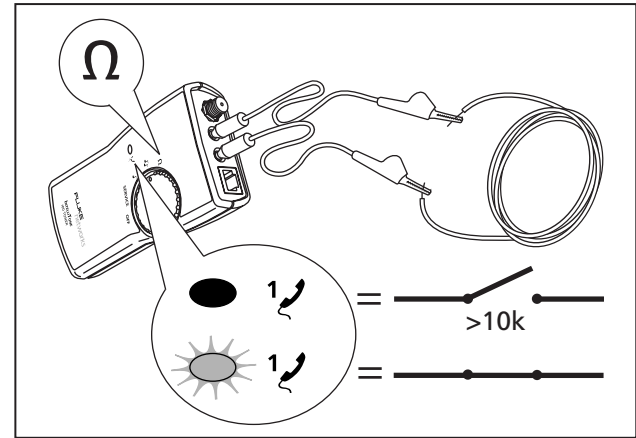

Figure 3. Continuity Test
3. Connect the toner to the circuit or component as shown in Figure 3.
5. The continuity LED indicates an open or closed circuit as shown in Figure 3.